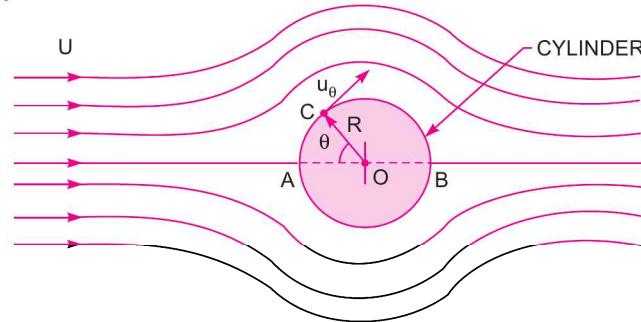
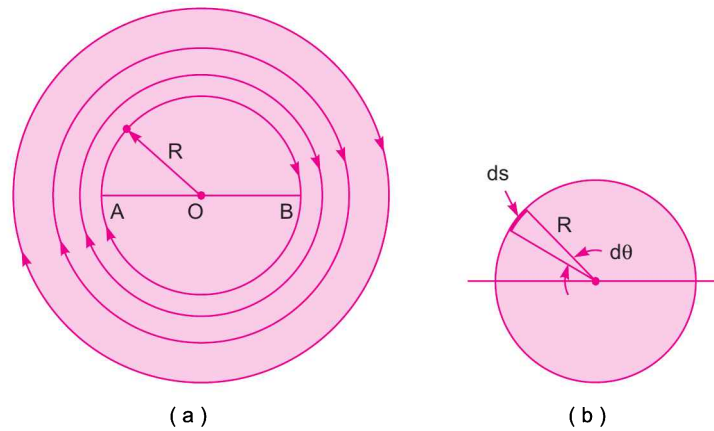
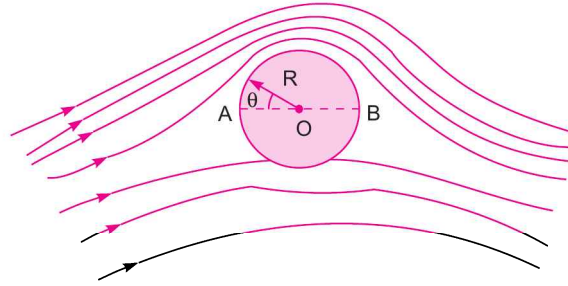

Fig. 14.9 Flow of ideal fluid over stationary cylinder.
Fig. 14.11 *Stream-lines for free vortex.*
Fig. 14.12 Flow pattern over a rotating cylinder.
14.7.1 Flow of Ideal Fluid over Stationary Cylinder. Consider the flow of an ideal fluid over a cylinder, which is stationary as shown in Fig. 14.9.
The flow-pattern for a free-vortex flow consists of streamlines which are series of concentric circles as shown in Fig. 14.11 (a).
In case of free-vortex flow, the stream velocity at any point on a circle of radius R is equal to the tangential velocity at that point. This means that angle between the stream-lines and tangent on the stream is zero. Also from Fig. 14.11 (b), the length of the element 'ds' is given as $ds = R d\theta$
Flow over Cylinder due to Constant Circulation. The flow pattern over a cylinder to which a constant circulation (Γ) is imparted is obtained by combining the flow patterns shown in Figs. 14.9 and Fig. 14.11 (a). The resultant flow pattern is shown in Fig. 14.12. The velocity at any point on the surface of the cylinder is obtained by adding equations (14.12) and (14.14) as
14.7.3 Expression for Lift Force Acting on Rotating Cylinder. Let a cylinder is rotating in a uniform flow field. The resultant flow pattern will be as shown in Fig. 14.12. Consider a small length of the element on the surface of the cylinder.
14.7.4 Drag Force Acting on a Rotating Cylinder. The resultant flow pattern for a rotating cylinder in a uniform flow field is shown in Fig. 14.12. The resultant flow pattern is symmetrical about the vertical axis of the cylinder. Hence the velocity distribution and also pressure distribution is symmetrical about the vertical axis and as such there will be no drag on the cylinder.
Stagnation points are those points on the surface of the cylinder, where velocity is zero. For a rotating cylinder as shown in Fig. 14.12, the resultant velocity is given by equation (14.15) as